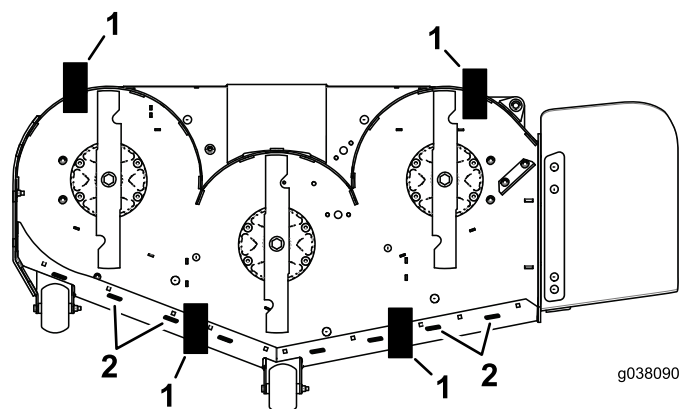

Figure 122
9. Place 2 blocks (see table below) under the rear edge of the cutting deck skirt; 1 on each side of the cutting deck (Figure 122).